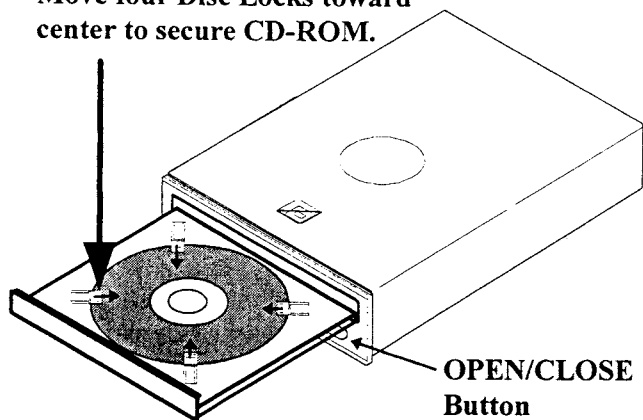

Figure 12: CD-ROM Installation
32. Power-up the game and set the CD-ROM into CD-Drive. (See Figure 12. For detail)
36. Set the CD-ROM. Secure the CD-ROM with Disc Locks. (See Figure 12).